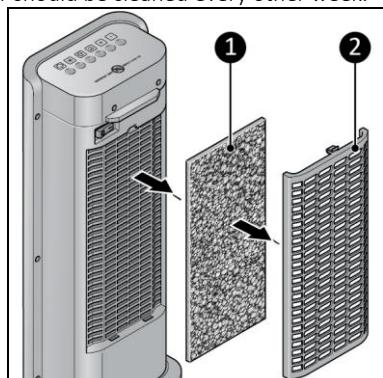

Figure 10
2. Open the safety grill with the click system (Figure 10, pos. 2). Remove the filters (Figure 10, pos. 1).